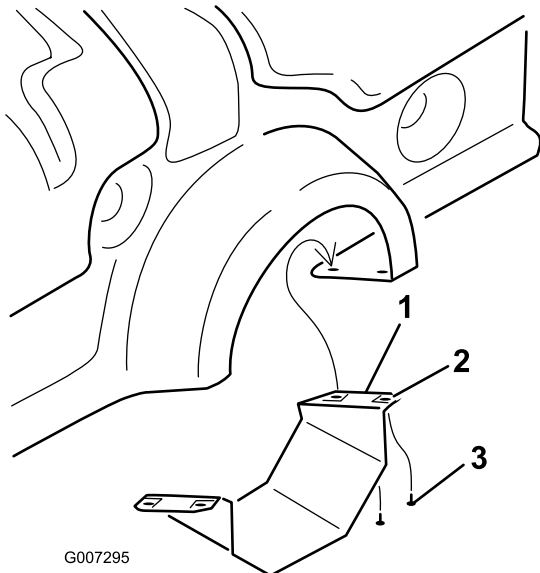

Figure 7
1. On the ProCore 864 only, remove the lower PTO shield (Figure 7).